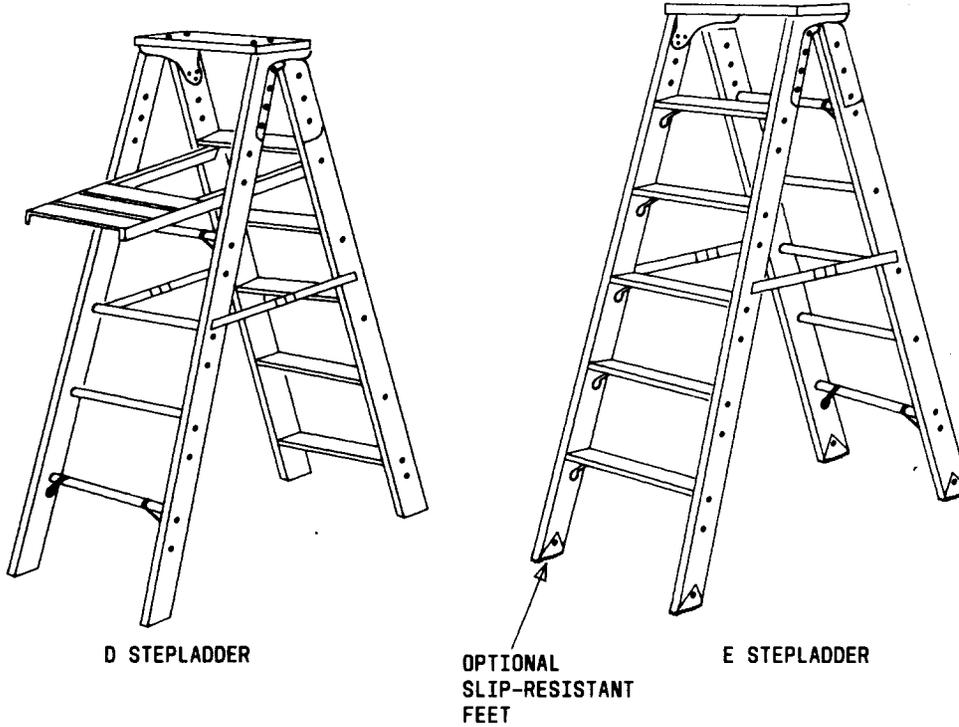

Fig. 1—D and E Stepladders (AT-7544)
3.01 The D and E stepladders (Fig. 1) have side rails and treads of strong, light softwood and back rungs of hardwood. The sections are locked in the open position by means of hinged spreaders; the spreader joints are covered by a guard to protect the hands of the craft person. Steel braces and tie rods are employed to make the ladder structure rigid and to reinforce the treads.